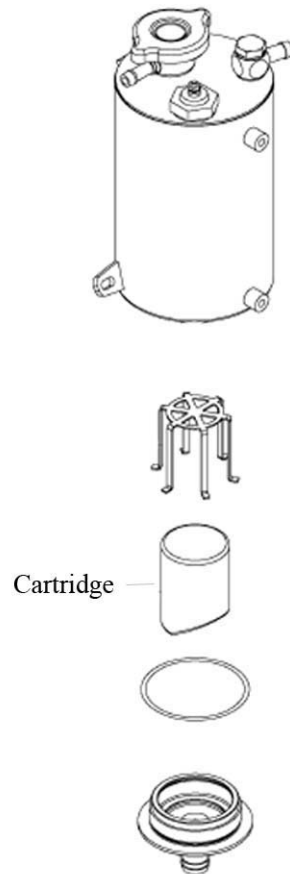

Fig.: 75.3
- (2) Remove wiring as well as hoses from the expansion tank. Plug the hoses.
- (3) Remove the expansion tank.
- (4) Open the bottom cover of expansion tank and remove the silicate cartridge. See Fig.: 75.3.